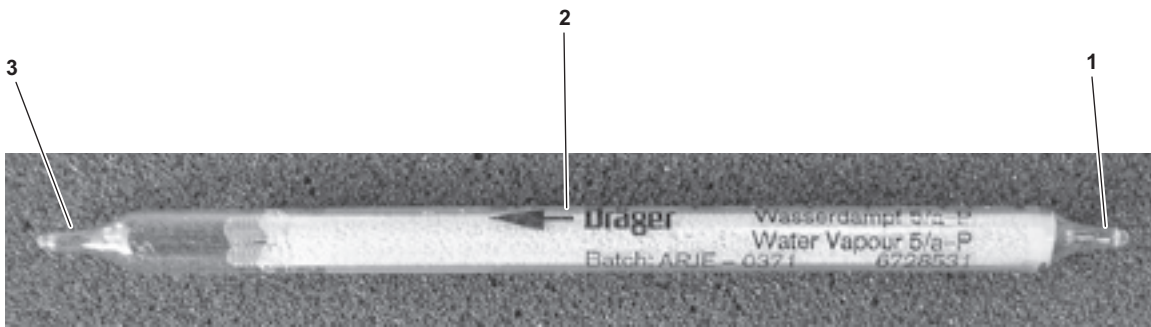
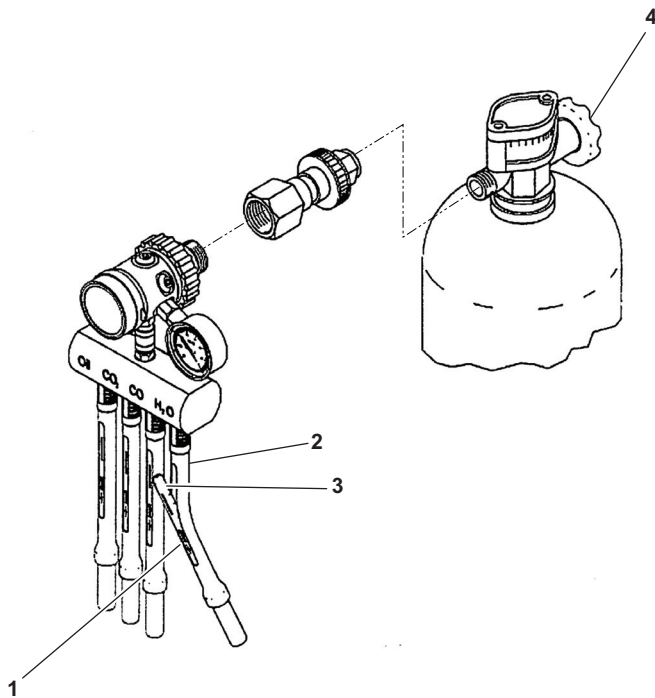

Figure 6-56. Water Vapor Drager Test Tube
Figure 6-57. Water Vapor Drager Test Tube and Tube Holder
- (11) Score and break off the outlet end (figure 6-56, item 1) of the water vapor Drager test tube (figure 6-56, item 2) using the tube opener (figure 6-55, item 1).
- (12) Score the inlet end (figure 6-56, item 3) of the water vapor Drager test tube (figure 6-56, item 2) using the tube opener (figure 6-55, item 1) but do not break off the tip.
- (13) Insert the outlet end (figure 6-56, item 1) of the water vapor Drager test tube (figure 6-56, item 2) into the outlet end (lower end) (figure 6-57, item 1) of the tube holder (figure 6-57, item 2) specifically marked for it. Position the water vapor Drager test tube (figure 6-57, item 3) so that the 10 minutes scale is clearly visible when fully installed in the tube holder.
- (14) Break off the inlet end (figure 6-56, item 3) of the water vapor Drager test tube (figure 6-56, item 2) using the tube opener (figure 6-55, item 1) and immediately insert the inlet end of the water vapor Drager test tube (figure 6-57, item 3) into the tube holder (figure 6-57, item 2).
- (15) Slowly OPEN the SCBA cylinder valve (figure 6-57, item 4) and start the electronic timer.